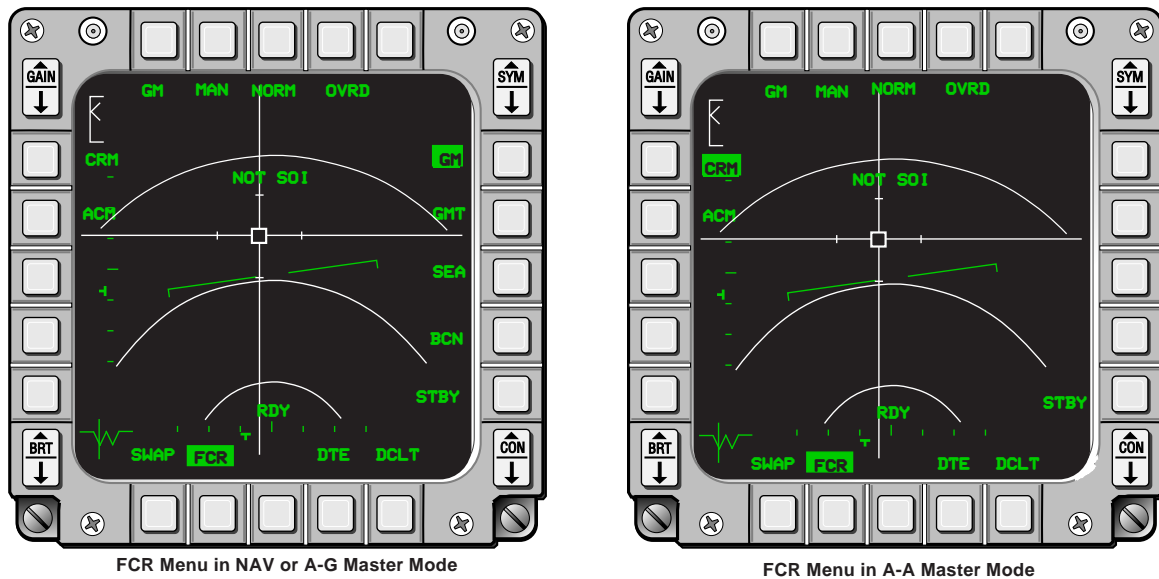

Figure 5-4 FCR Menu Pages
The FCR has a total of six air-to-ground radar modes. Three of the modes, Ground Map (GM), SEA, and Ground Moving Target Indicator (GMTI), are directly associated with navigation or preplanned weapons delivery operations. GM and SEA modes will be addressed together as they share many similarities, however, GMTI will be addressed as a stand alone ground map mode. There are three other “specialized” air-to-ground radar modes consisting of Beacon (BCN) mode, Air-to-Ground Ranging (AGR) mode, and Situation Awareness Mode in Ground Map (SAM in GM) mode. The radar modes are accessed through the FCR Menu page. The menu page can be selected when in any master mode by depressing OSB 1 on the FCR MFD format. When in A-A master mode, only selections of air-to-air radar modes are possible from the menu page. When in NAV or A-G master mode, the menu page allows the pilot to select any A-A or A-G radar mode (Figure 5-4). STBY is always available on the FCR Menu page at OSB 10.